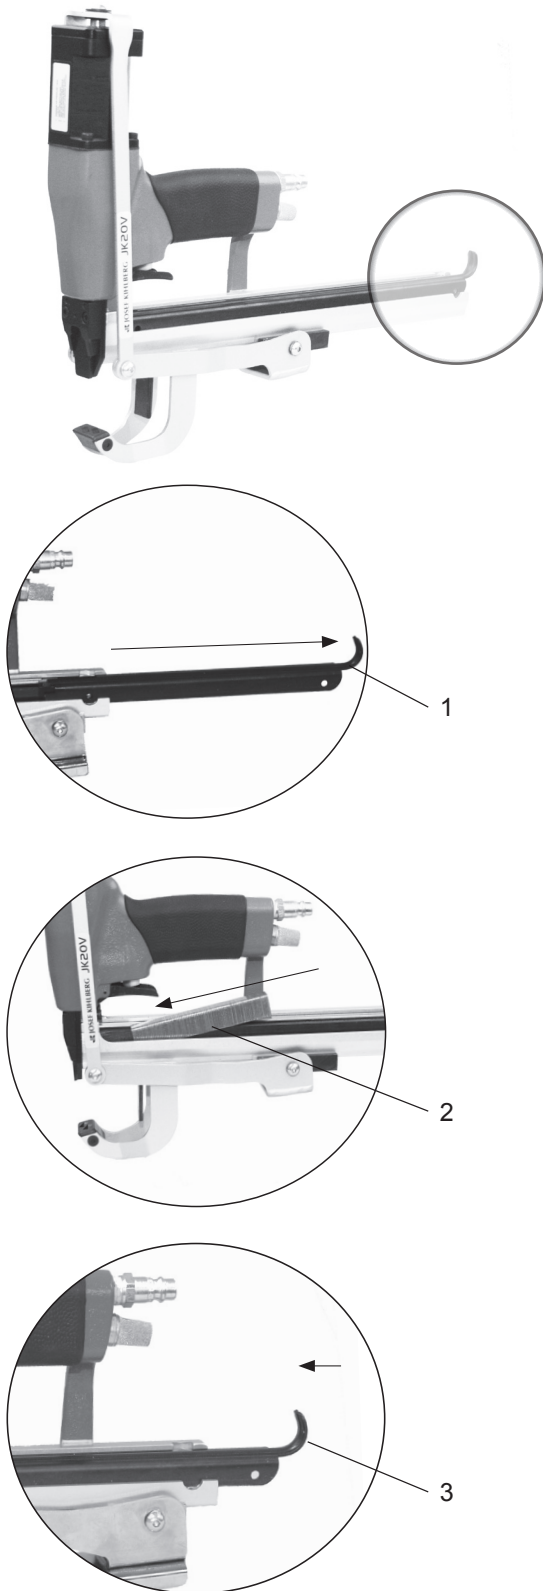

Fig. 4
1. Pull the magazine lid all the way out (Fig. 4/1)